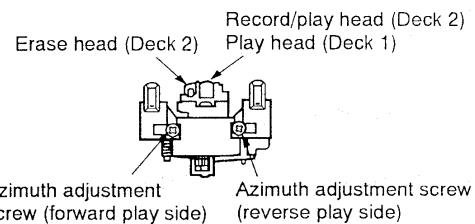

Fig. 6
- Forward play the azimuth adjusting portion (8 kHz, -20 dB) of a test tape (QZZCFM) and adjust the azimuth adjustment screw so the output at the left and right channels is at the maximum. (See Fig. 6.)